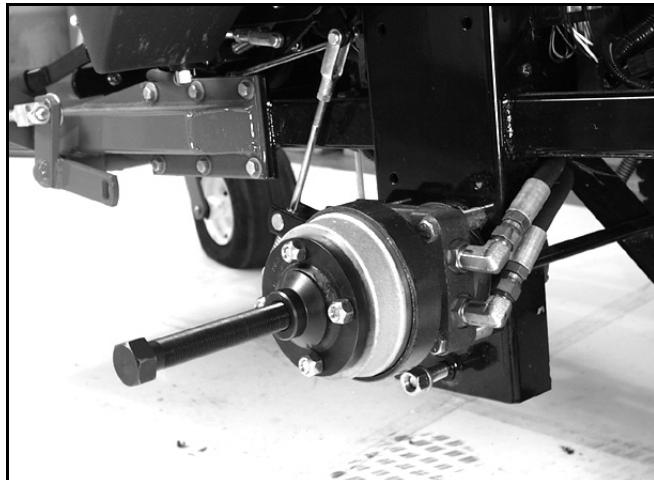

Figure 79 1227-003
6. Using the special puller, remove the brake hub from the wheel motor (Figure 79).